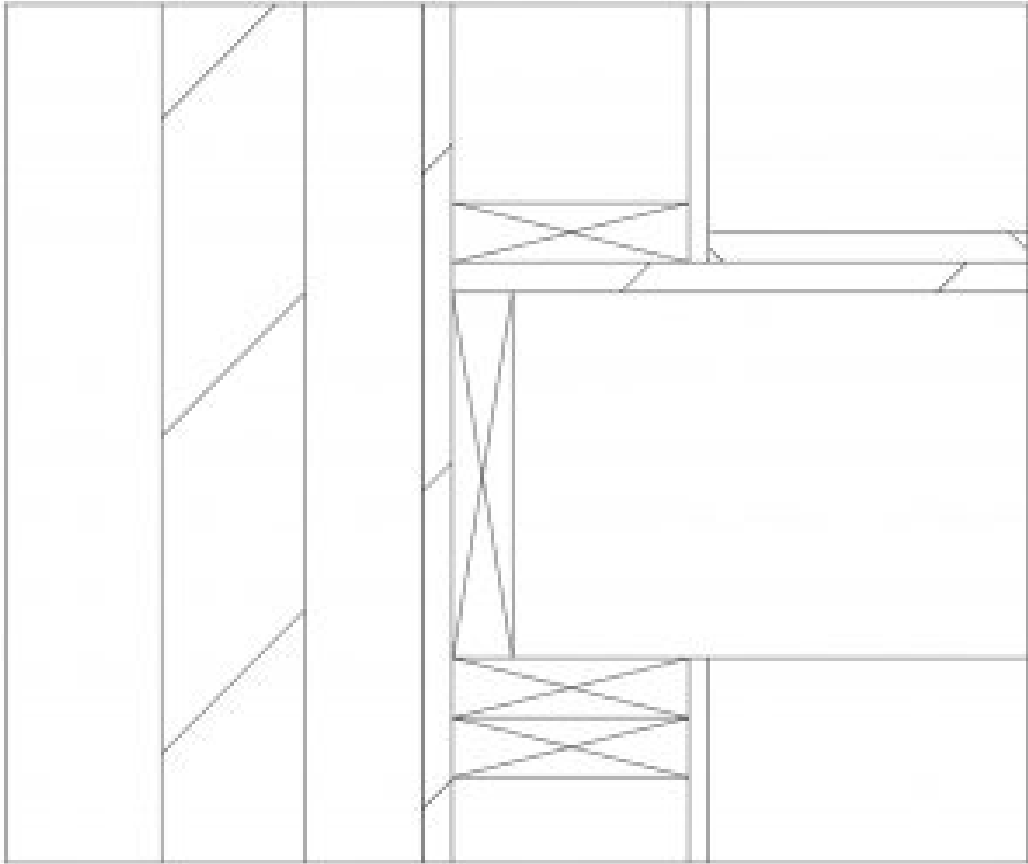

Figure 10.5 Blocking, top plates and bottom plates drawn using Detail Lines
3. Continue using the Thin Line style and draw the blocking, top plates, and bottom plates. Use Figure 10.5 for reference. The actual dimensions of wood members are 1.5" thick.